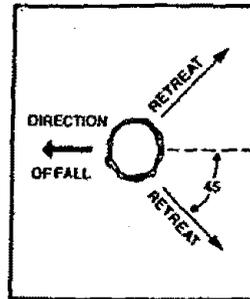

Figure 19
- h. Plan a clear retreat path to the rear and diagonal to the line of fall. Figure 19.